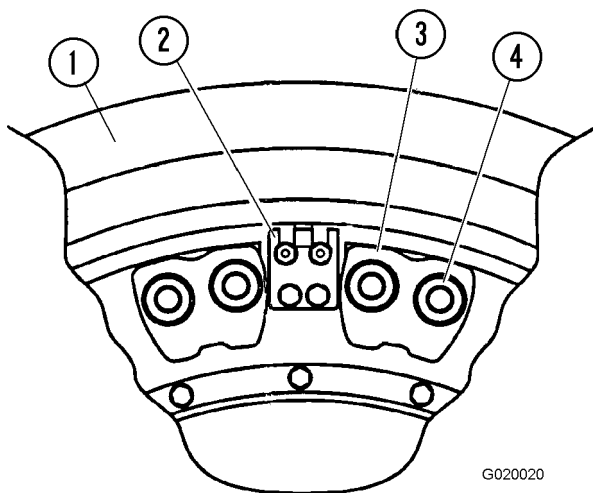

FIGURE 2-4. RIM AND CLAMPS
3. Remove air valve lock plate (2, Figure 2-4)
4. Remove clamp nuts (4) clamps (3).